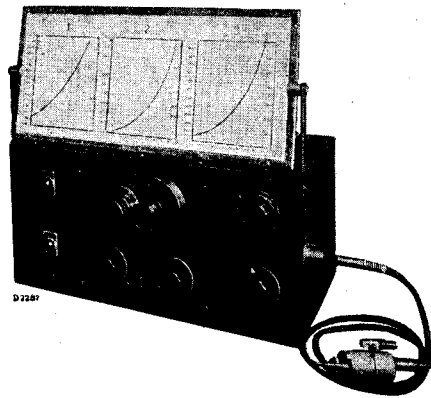

Fig. 1
1. Service oscillator GM 2880 (fig. 1).
6. Insulated trimming plug-in key 6 mm.